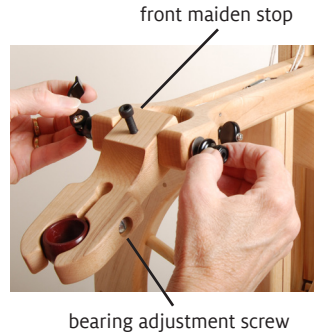
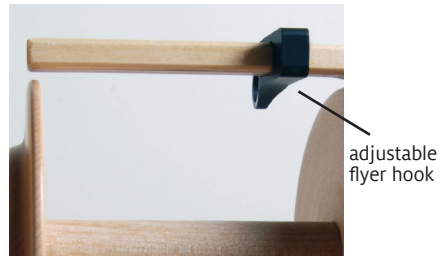

FIGURE 12: ADJUST FRONT MAIDEN
FIGURE 13: MOVE FLYER HOOKS
2. Make sure there is a 1/16" gap between the flyer shoulder and the orifice bearing (Figure 12). If there is no gap, fold down the bulky front maiden and use the 5 mm hex wrench to adjust the front maiden stop in or out as necessary (Figure 13). Fold the front maiden up and check the fit.
3. Spin the flyer by hand. If it does not spin freely, use a #2 Phillips screwdriver to loosen the bearing adjustment screw in the side of the bulky front maiden. Slide the flyer to the rear about 1/16" to create a space between the flyer shaft shoulder and the orifice bearing. Tighten the screw to secure the orifice bearing (Figure 12).
The adjustable flyer hooks can be set at any position you choose. Hold a hook above and below the flyer and slide it into place (Figure 13).